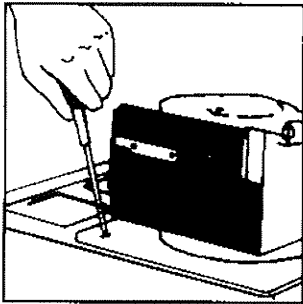

FIG. 4
1. Unscrew the four plastic screws and keep safely (Fig. 4).